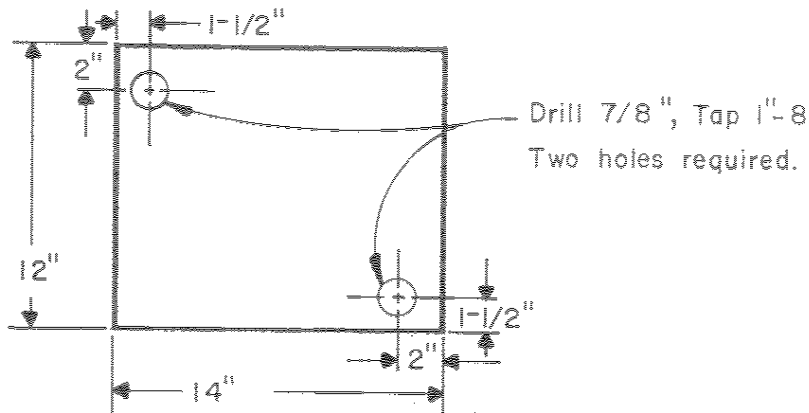

Figure 8.1. Mounting Plate Fabrication Instructions.
b. Remove the shipping skids. Fabricate four 1-1/4" thick steel plates as shown in Figure 8.1.